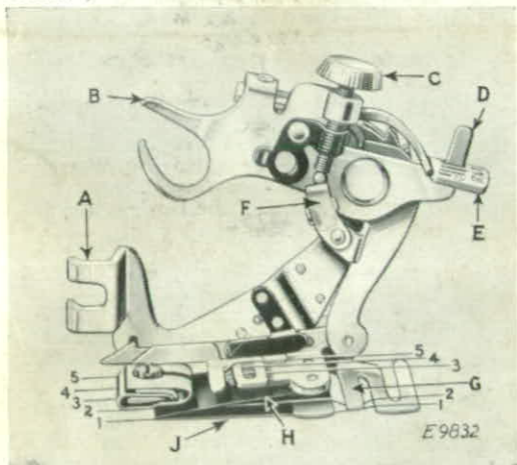
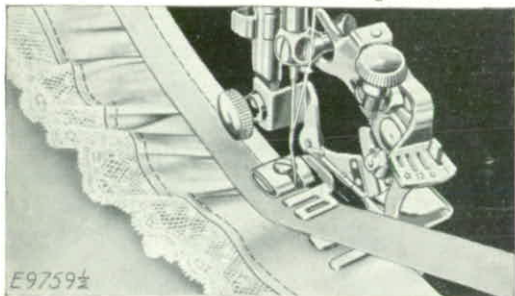

FIG. 1. THE RUFFLER AND ITS PARTS
FIG. 4.
Lines 1, 2, 3, 4 and 5 in Fig. 1 indicate where the material is to be placed for various operations, as follows :
Refer to Fig. 1 when inserting the material in the ruffler.
The names and uses of the principal parts of the ruffler are as follows, see Fig. 1 :
Raise the adjusting lever (E) and move it to the left so that the projection (D) will enter the slot marked "1" in the adjusting lever (E) when the lever is released. The ruffling blade will then move forward and back once at every stitch. Insert the material to be ruffled between the two blue blades, following the line 2 in Fig. 1. Draw the material slightly back of the needle, lower the presser bar and commence to sew.
2 (Fig. 1). Place the garment to which the ruffle is to be attached, under the separator blade, following the line 1 (Fig. 1). Proceed the same as for gathering.
Insert the material to be ruffled between the two blue blades, following the line 2 (Fig. 1). Place the garment to which the ruffle is to be attached under the separator blade, following the line 1 (Fig. 1). Place the material for the facing over the upper blue blade, as shown in Fig. 4, following the line 3 (Fig. 1). The facing may be straight or bias material. If the facing is to be on the right
Insert the material to be ruffled between the two blue blades, following the line 2 (Fig. 1). This
The material for piping must measure about  $\frac{1}{4}$  inch wide when folded in the centre and is usually cut on the bias. Place the piping material in the ruffler, following the line 4 (Fig. 1) with the folded edge of the piping to the right. The material to which the piping and ruffling are to be sewn should be folded on the edge and inserted in the ruffler, following the line 5 (Fig. 1).
marked "6" in the adjusting lever when the lever is released. The ruffling blade will then move forward and back once at every six stitches. To adjust the ruffling blade to make a plait once at every twelve stitches, place the adjusting lever (E) so that the projection (D) enters the slot marked "12" in the adjusting lever. Insert the material to be plaited between the two blue blades, following the line 2 (Fig. 1). The size or width of plaits is regulated by the adjusting screw (C) and the